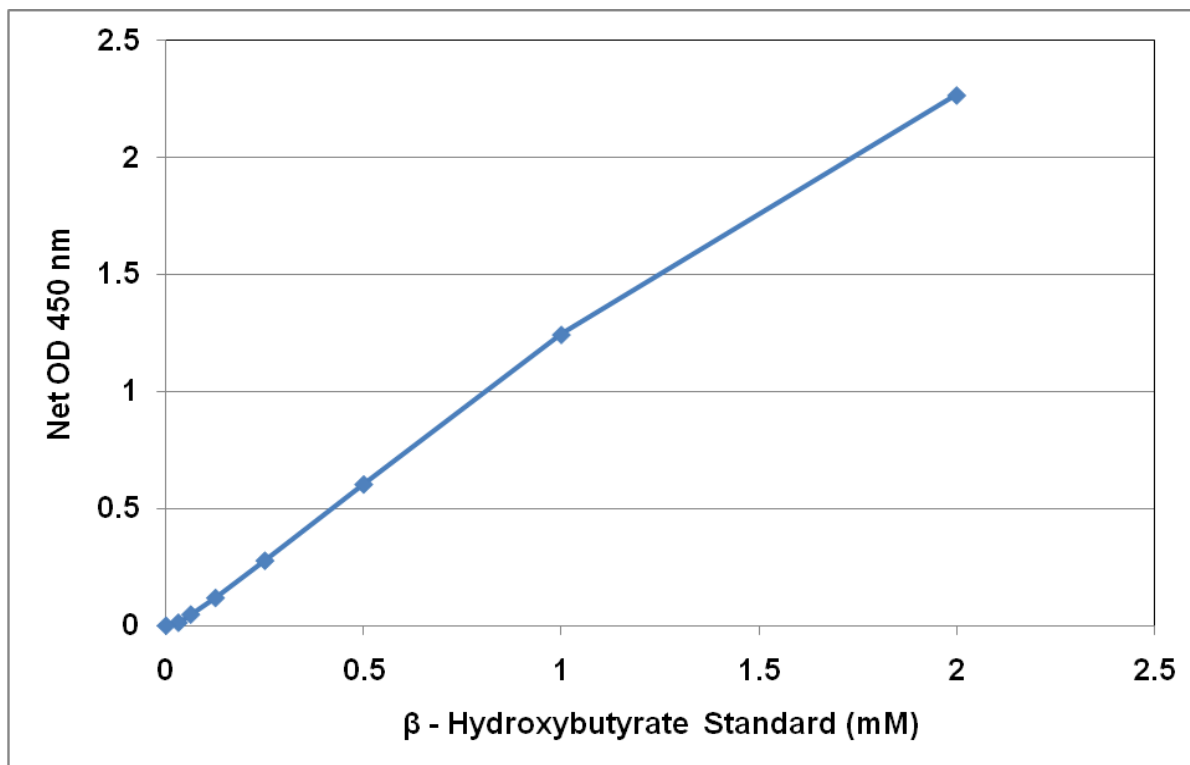

Figure 2: β -Hydroxybutyrate Standard Curve.
2. Plot the corrected absorbance for the β-Hydroxybutyrate standards against the final concentration of the standards from Table 1 to determine the best slope (mM^{-1}). See Figure 2 for an example standard curve.